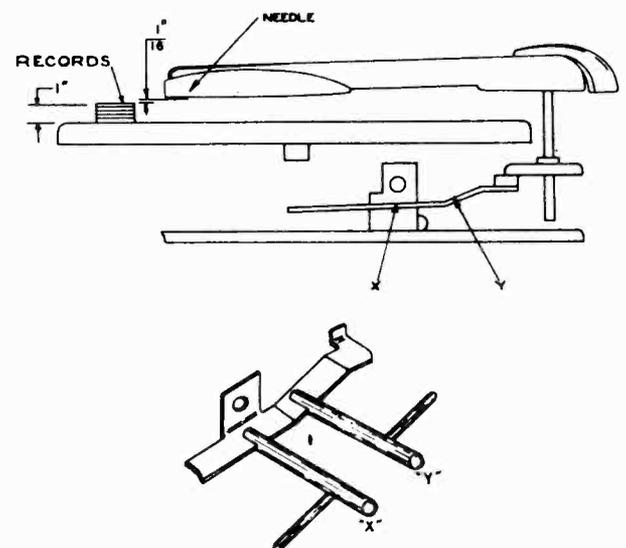

Fig. 4
The vertical movement of the pickup arm is controlled by the angle of the pickup arm raising lever (37 and Fig. 4). The needle should approach the top record of a full 1" stack of records on the turntable with approximately $\frac{1}{16}$ " clearance.
4. If the needle does not clear the top record or if it raises too high, adjust by holding the pickup arm raising lever (37) at point X and bending at Y as indicated in Fig. 4.